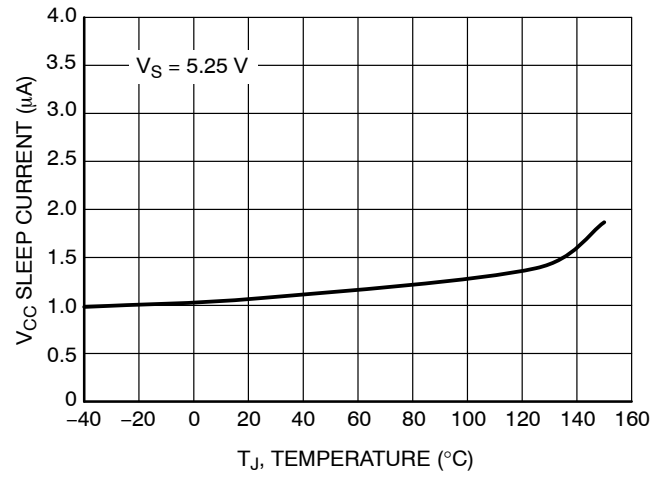

Figure 7. V_{CC} Sleep Supply Current vs. Temperature
- For temperatures above 85°C , refer to Figure 7.
6. For temperatures above 85°C , refer to Figure 7.